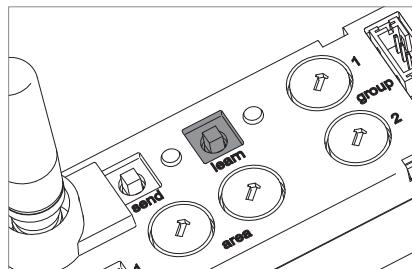

Fig. 15: "learn" key.
- ▶ Press the "learn" key and keep it depressed for 10 to 15 seconds until the "learn" LED starts flashing slowly, see Fig. 15.